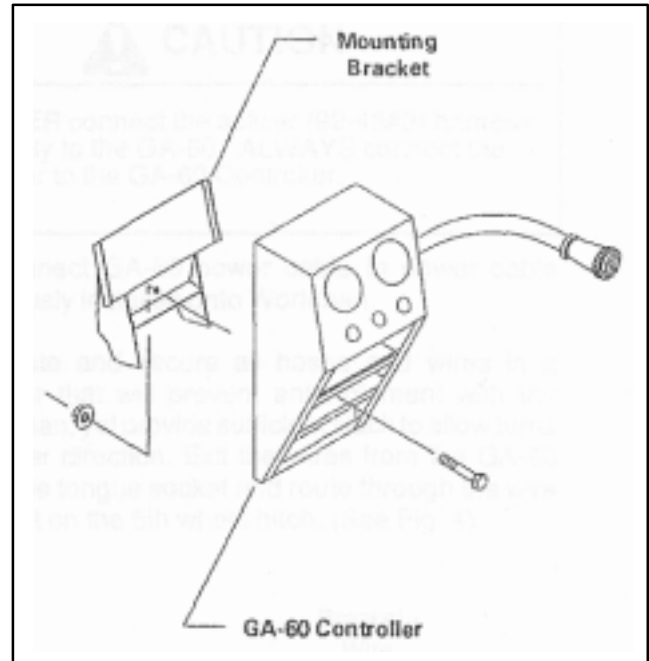

Figure 1
MOUNT GA–60 CONTROLLER (Fig 1 & 2)
1. Mount the GA–60 controller to the mounting bracket using (1) 3/8" x 1–1/2" bolt and flanged lock nut. (See Fig. 1)